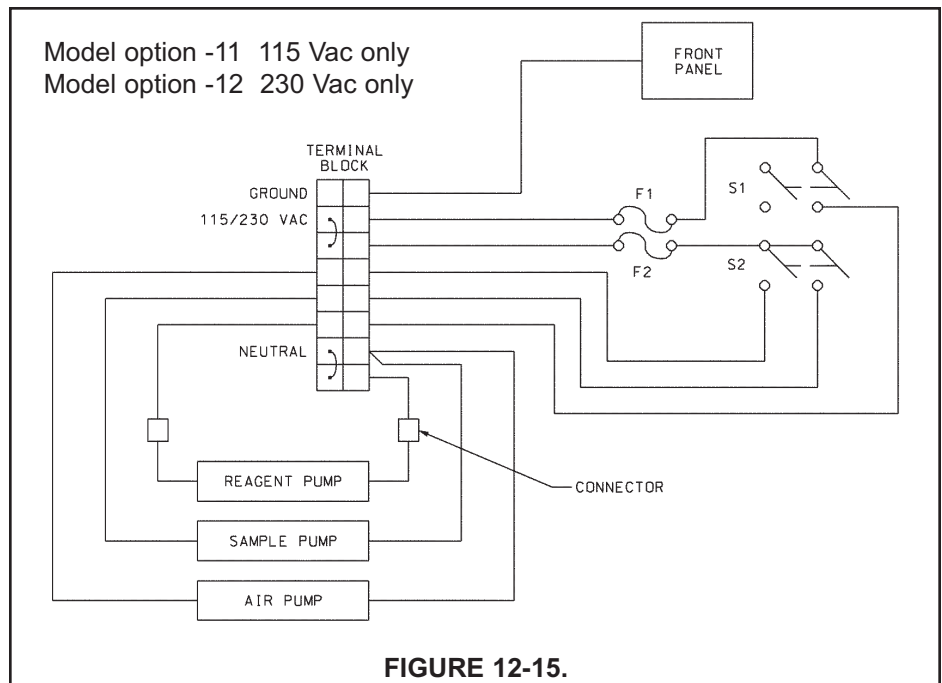

FIGURE 12-15.
7. Disconnect the air pump power wires from the terminal strip. See Figure 12-15. Discard the old air pump.